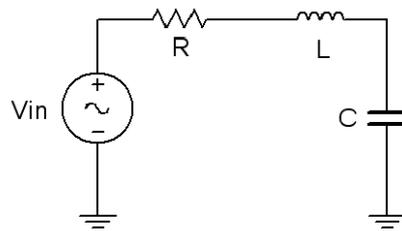

Figure 4.3
8. Using Figure 4.3 with both the 10 nF capacitor and 10 mH inductor, repeat steps 1 through 6 in like manner, using Tables 4.5 and 4.6. Unfortunately, it will be impossible to see the voltage of all three components simultaneously with the source voltage using a two channel oscilloscope. To obtain proper readings, place the first probe at the input and the second probe across the capacitor in order to see the phase and magnitude of V_C . Then, swap C and L (placing the second probe across the inductor) to see V_L , and finally, swap L and R (with the second probe across R) in order see V_R .